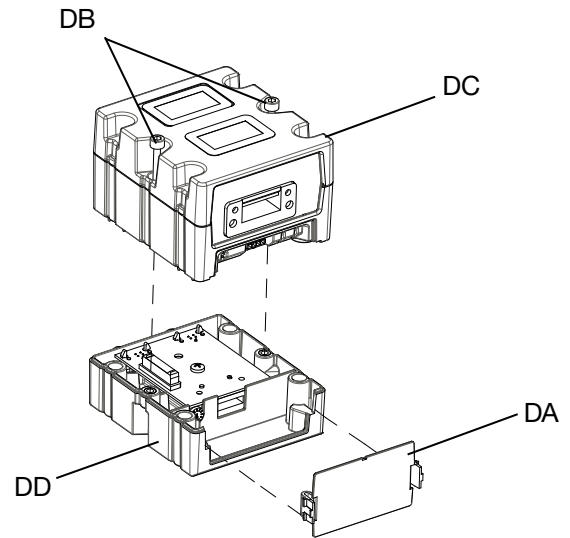

FIG. 51: Disassembling the CGM
4. Remove the access cover from the CGM (DA). Loosen and save the two M5-0.8 x 45 mm x screws (DB), and remove the CGM (DC) from the base (DD). See FIG. 51.